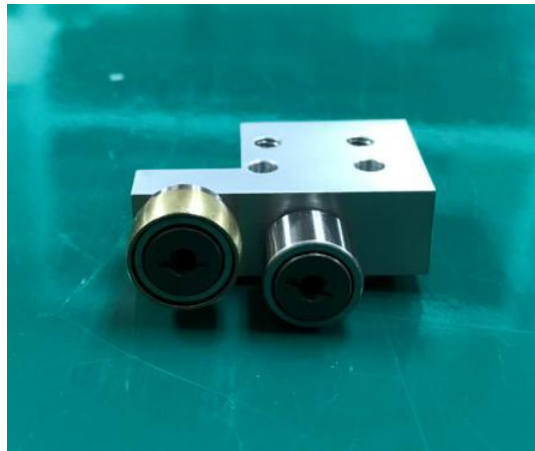

Figure 25 Adjustable Rail End Pulley Kit
1. Prepare 1 unit of 4XASP-A097 as shown in Figure 25